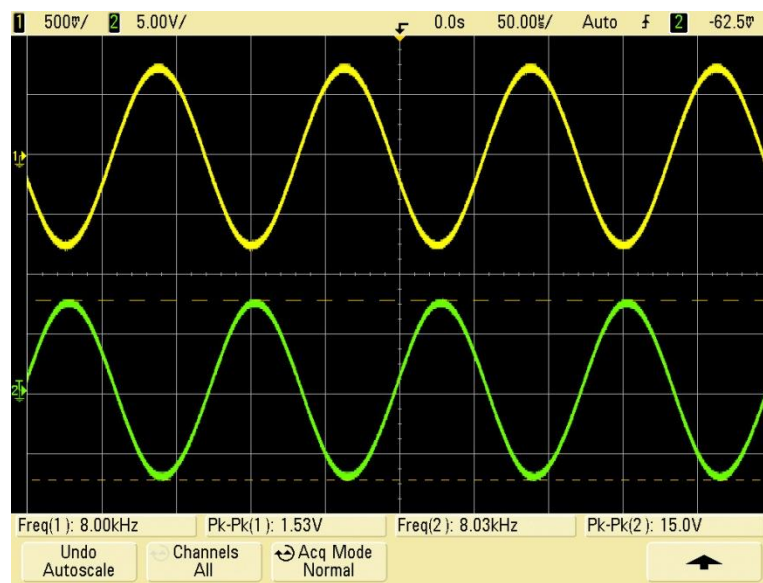

Figure 6. Oscilloscope traces for the inverting amplifier of Fig. 5.
Using $R_1 = 10\text{k}\Omega$ and $R_2 = 100\text{k}\Omega$, construct the circuit shown in Figure 5. Use a BNC Tee at the output of the function generator so that the signal can be sent to the oscilloscope (CH1) and to your op amp circuit. Connect the output of the op amp to CH2 of the oscilloscope. Adjust the AMPLITUDE of the function generator to be approximately 0.75 V (peak-to-peak) and set the FREQUENCY to approximately 8 kHz. You should see oscilloscope traces similar to Figure 6 below. Notice that the gain is -10 ($15.2\text{V}/1.52\text{V}$) and the output decreases as the input increases (an inverting amplifier). Notice that the output may be slightly shifted from 180° relative to the input. **Determine the phase shift of this op amp circuit by (1) finding the time lag (ΔT) between channel 1 (input) and channel 2 (output). (2) The phase shift is calculated using $360^\circ * (\Delta T/T)$ where T is the period of the sine wave ($T=1/f$).**